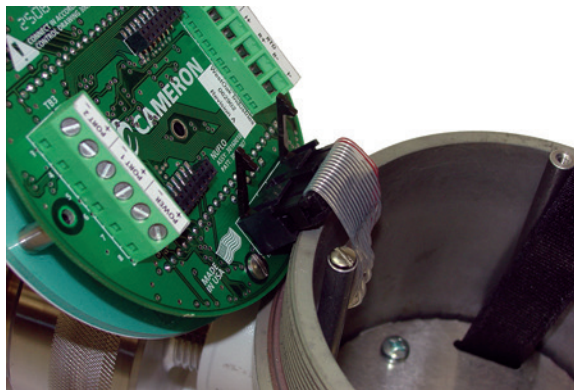

Figure 5.2—Latch securing the ribbon cable
- a. Lift the latch from the black clip securing the ribbon cable (Figure 5.2).
- a. Lift the latch from the black clip securing the ribbon cable (Figure 5.2, page 81).